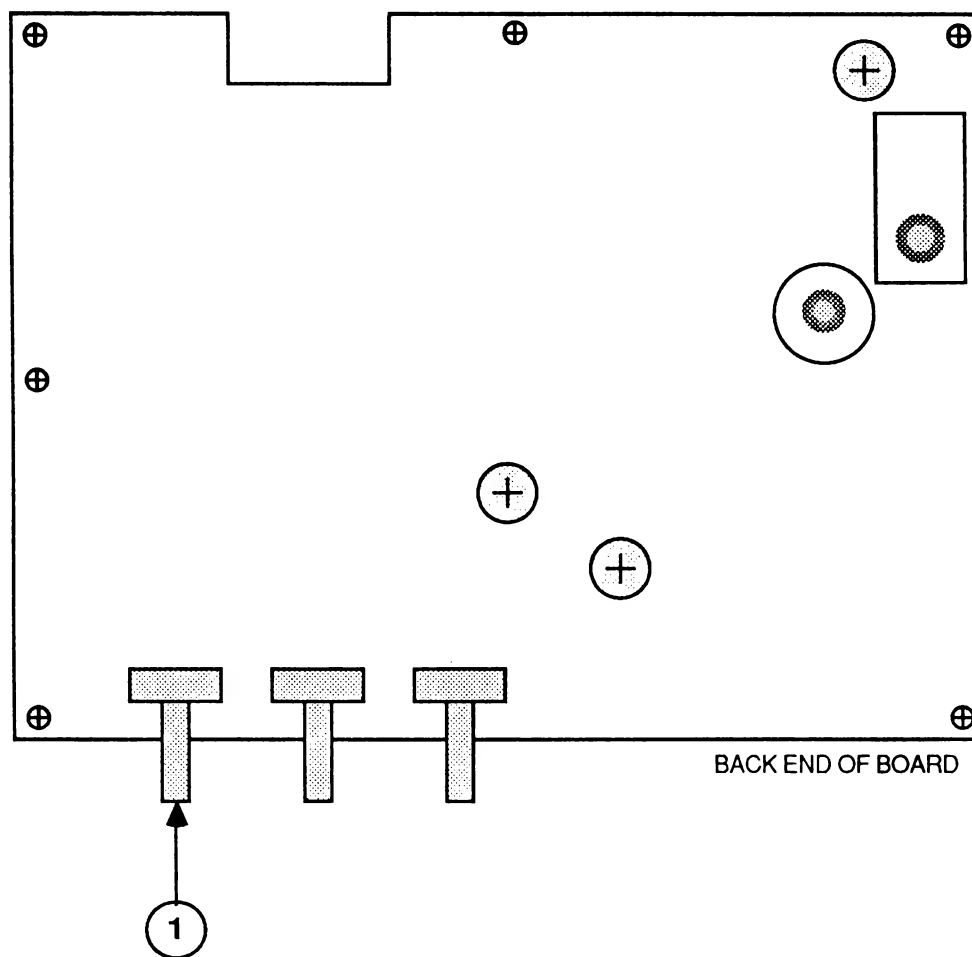

FIGURE 13
5. If necessary, readjust the vertical hold control R302 (Figure 13, #1) until the picture locks (stops rolling) on the vertical sync.